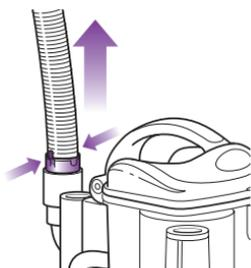

Fig. 25
- Detach the stretch hose from the back of the portable *Lift-Away*® canister by squeezing the tabs together and pulling up. (Fig. 25) Straighten out the hose and look inside for blockages.